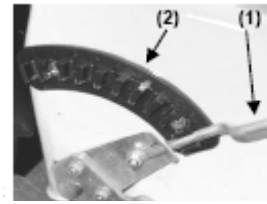

Figure 4.
Adjusting the cut height– refer figure 4.
- With the engine stopped, move the height adjustment lever (1) to position “6” (refer to (1) in figure 4).
- Loosen the conbar locking knob (A)